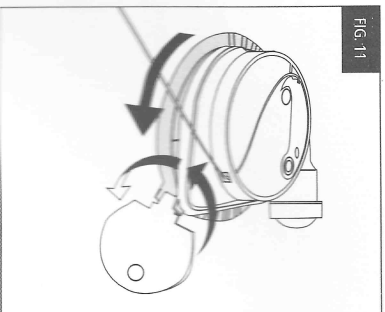
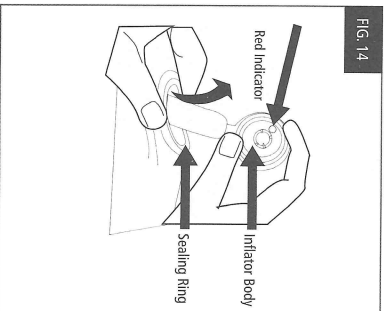

FIG. 12
FIG. 13
4. Turn the black locking ring fully counter clockwise and pull the inflator cap off the bladder (Fig. 12, Fig. 13). Discard.